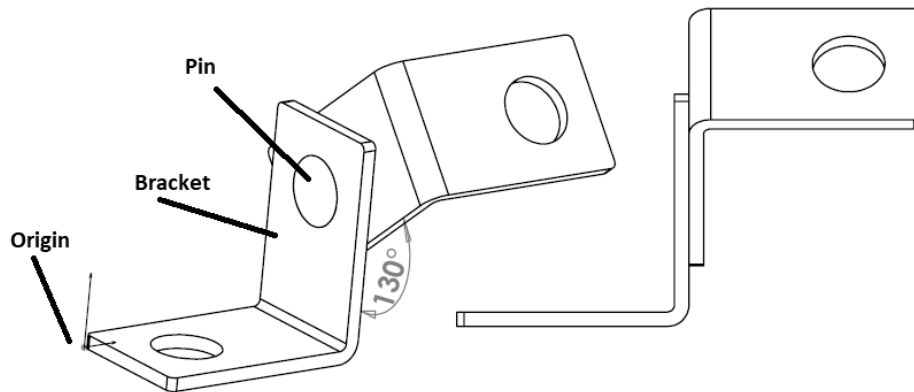

Figure 5.1
The following Figure 5.1 is to be used to answer Questions 5(a-b) where two views of the same model available.
- b) In Figure 5.1, Brackets are positioned with angel mates of 130° . Change these angles to 110° . Determine the centre of mass in millimeters of the assembly. You need to provide the Figures of Assembly, and Mass Properties.